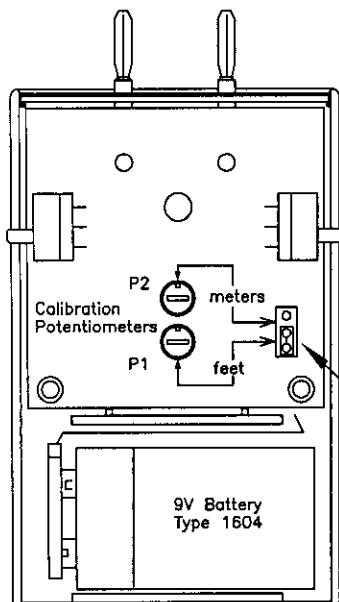

FIGURE 5 COVER REMOVED SHOWING PROGRAMING JUMPER AND CAL. POT.
The Meter Adapter Model APL-90 is housed in a high-impact plastic case which measures 3 3/4" x 2 1/2" x 1", weighs 4 ounces and is powered by (1) 9V NEDA Type 1604 battery with a life of approximately 100 hours. Red and Black 4 foot long test leads with insulated standard size alligator clips are provided. The unit is equipped with a standard size double banana plug spaced 3/4" apart. This plug provides the means to connect into a Digital Multimeter. A power ON/OFF slide switch and a power on L.E.D. indicator are also provided. On the opposite side of the power switch is a calibration check/test slide switch. A programmable Micro Jumper located inside the adapter (see figure 5) is provided for selecting either Feet or Meters as the unit of measurement to be digitally displayed.
4. If adapter is programmed to measure in feet the selectable micro jumper will be in the position shown in figure 5.
5. To calibrate: Use a small screwdriver (1/8" blade or smaller) to adjust potentiometer P1 (See Figure 5) so the meter will display a count of 540 (feet).
2. Position Programming Micro Jumper for the type of unit of measurement required. (See Figure 5)